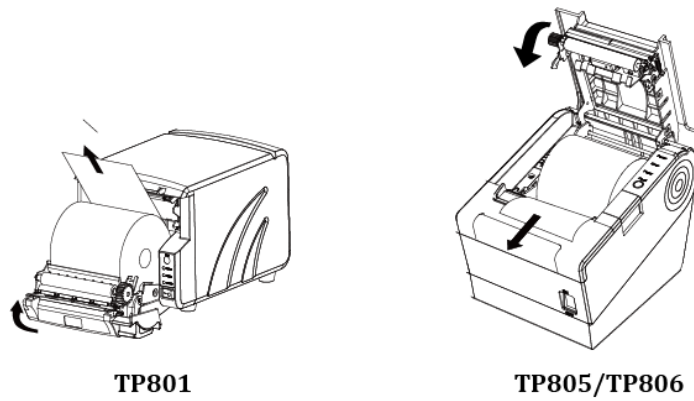

Figure 4.6.3
- 4) Close the top cover of TP805\TP806 or front cover of TP801. (Like figure 4.6.3)